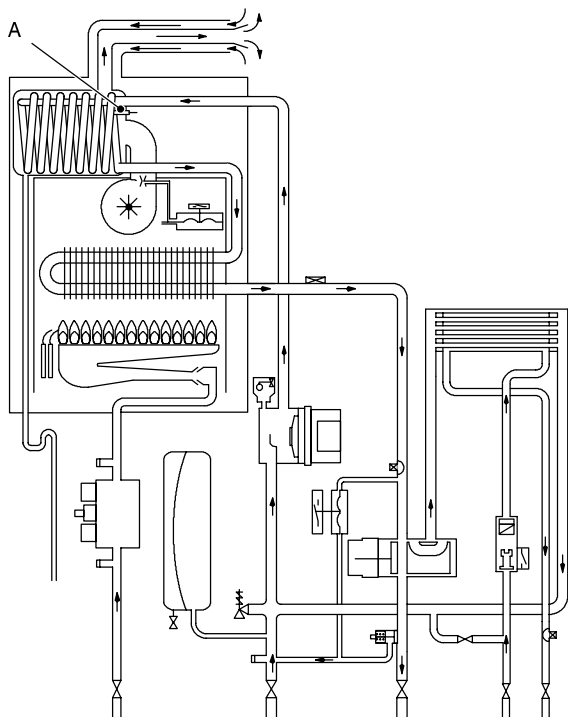
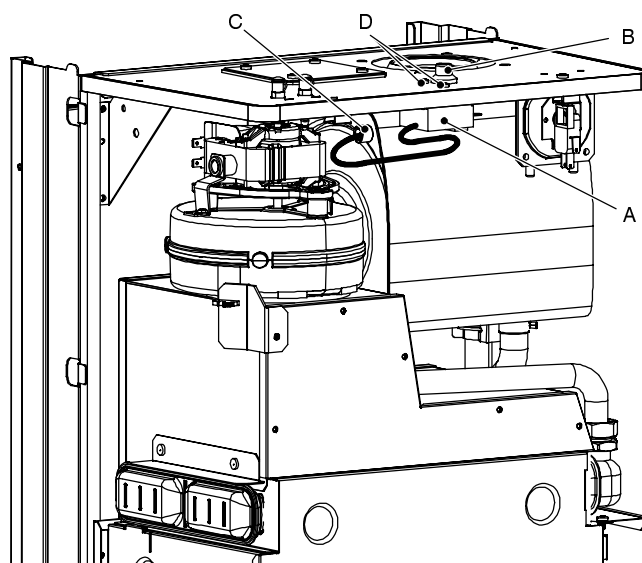

Fig. 80
Fig. 81
The Flue thermostat A in Fig. 80 and Fig. 81 senses the temperature of the combustion products that flow through the condensing heat exchanger.
The reset push-button is located on the top of the boiler under a protective cap B in Fig. 81 and can be reached by unscrewing the cap.
- 3 Unscrew and remove the thermostat probe C (Fig. 81) from the condensing heat exchanger.